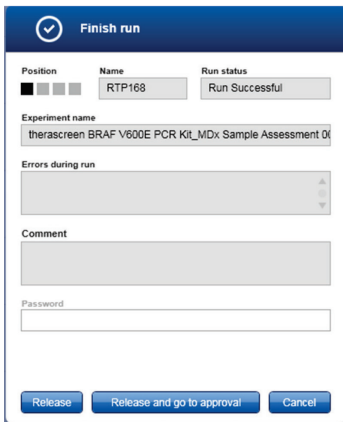

Figure 12. “Finish Run” dialog. 1 = Release and go to approval.
12. To view the run information and BRAF V600E assay results, click “Release and go to approval” (Figure 12).